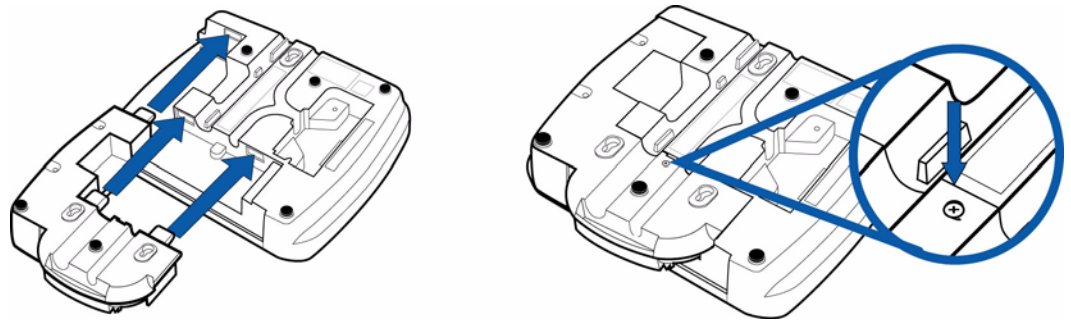

Figure 18 Installing the Smart Card Module
- 2 Slide the smart card module into place (Figure 18) and secure the retaining screw.